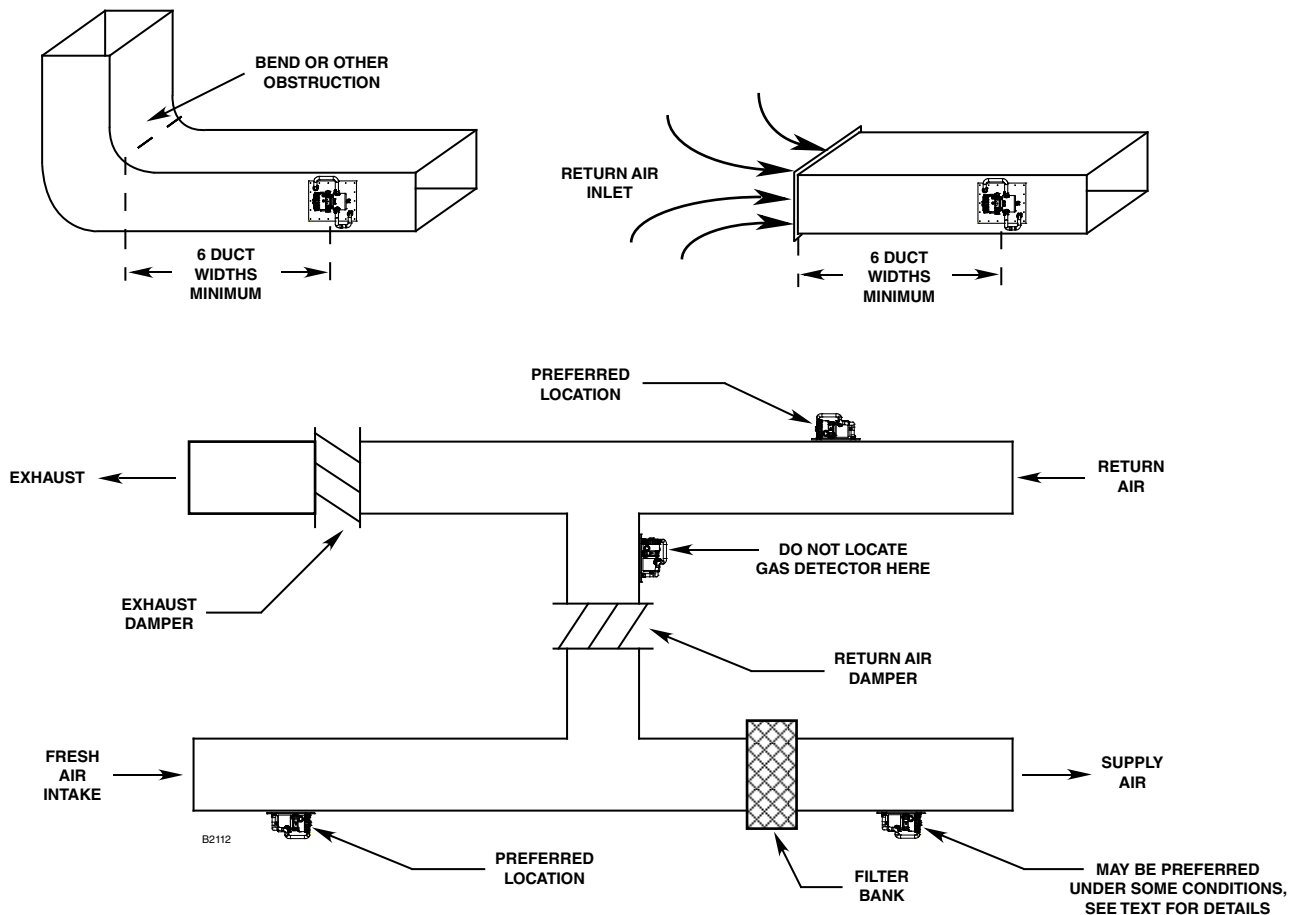

Figure 3—Gas Detector Location
1. Whenever possible, detectors should be installed approximately six duct widths downstream from bends, duct openings, or deflection plates. See Figure 3. These locations provide fairly uniform, non-turbulent airflow, and are homogenous with respect to air/gas mixing.
2. Locate duct detector so that dampers do not restrict air flow at the detector location. See Figure 3.